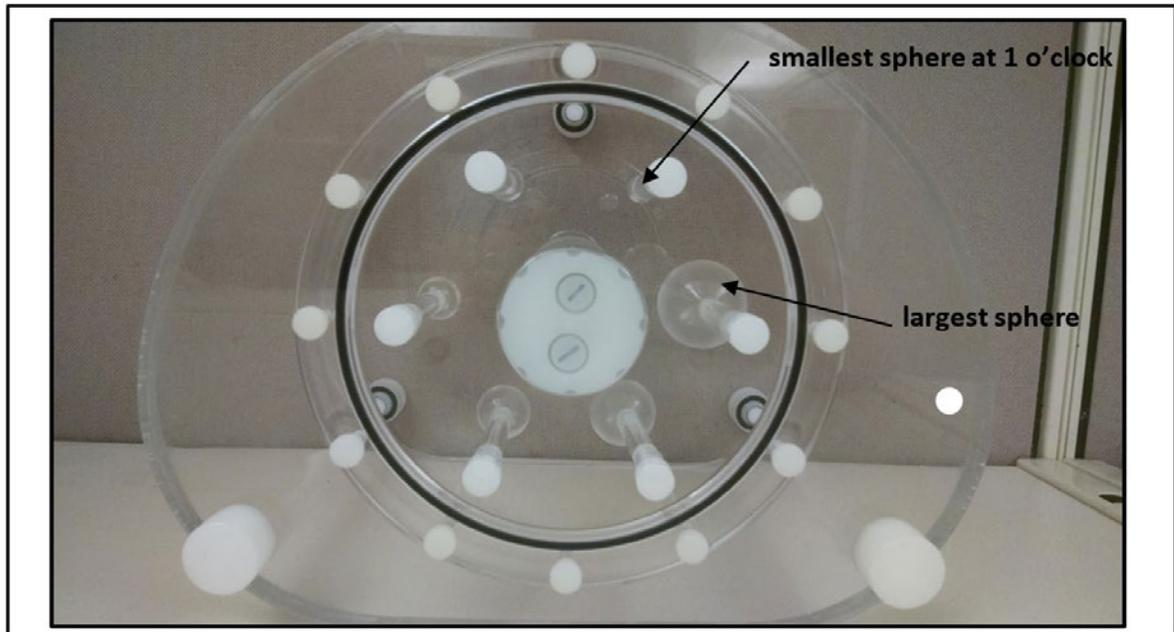
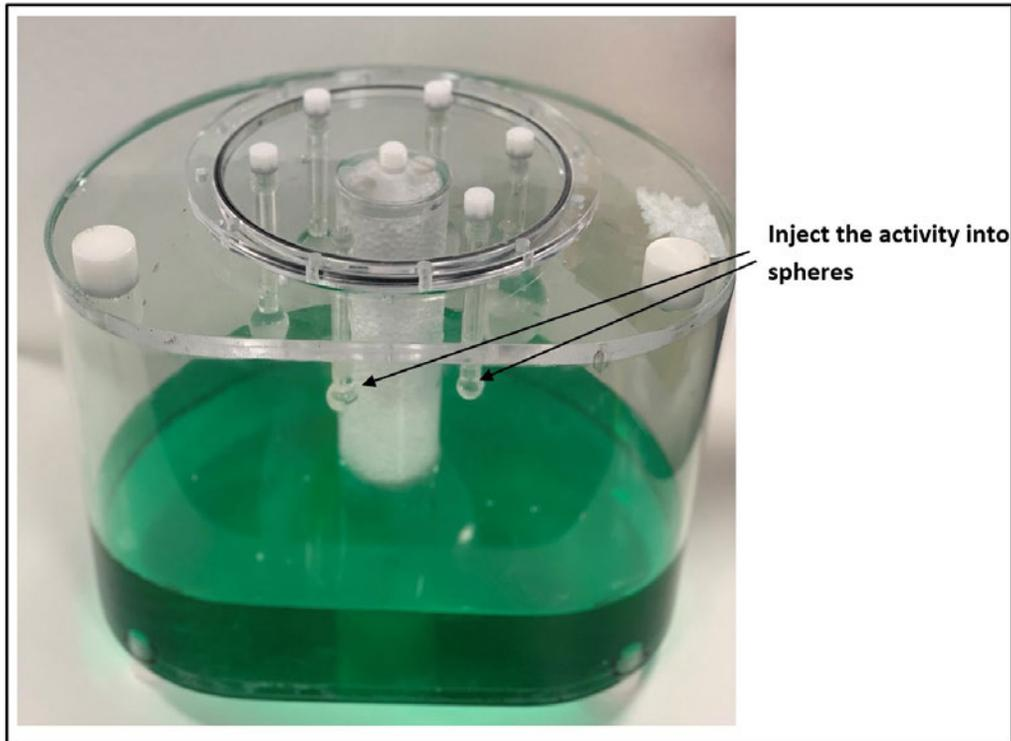

Figure 4.5 NEMA-IQ phantom top view. Positioning of spheres in phantom
Figure 4.6: Fill the Spheres with Activity
2. make sure that the smallest sphere in the phantom is in the 1 o'clock position, and the other spheres go in increasing size counter-clockwise when looking at the top of the phantom (Figure 4.5). If not, remove the screws holding the top flange and rotate/rearrange the spheres starting at the 1 o'clock position.
4. Refer to Figure 4.6. Fill the background volume of the Image Quality phantom one quarter of the way (25%) +50cc, namely 2500cc, with deionized water and some dye into the background volume of the Image Quality phantom. It is recommended to add enough dye for easier recognition of the solution surface inside the sphere capillary.
8. Refer to Figure 4.6. Fill all 6 spheres with the concentrated solution from the syringe. Pull the needle slowly out of the sphere as you fill it, to prevent the formation of air bubbles in the spheres. Refer to Figure 4.5 while fastening the spheres back on the lid of the IQ phantom.